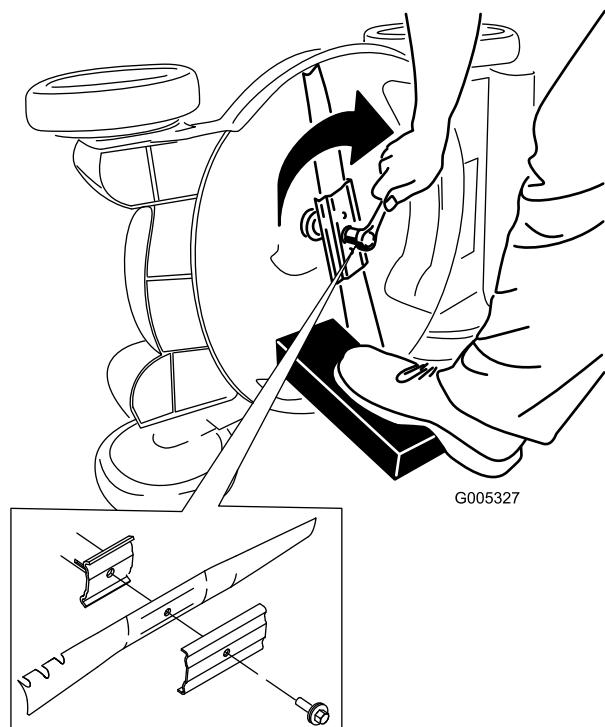

Figure 49
5. Install the new blade and all mounting hardware (Figure 49).
3. With the engine running and the blade engaged, spray a stream of water in front of the right rear wheel (Figure 49).